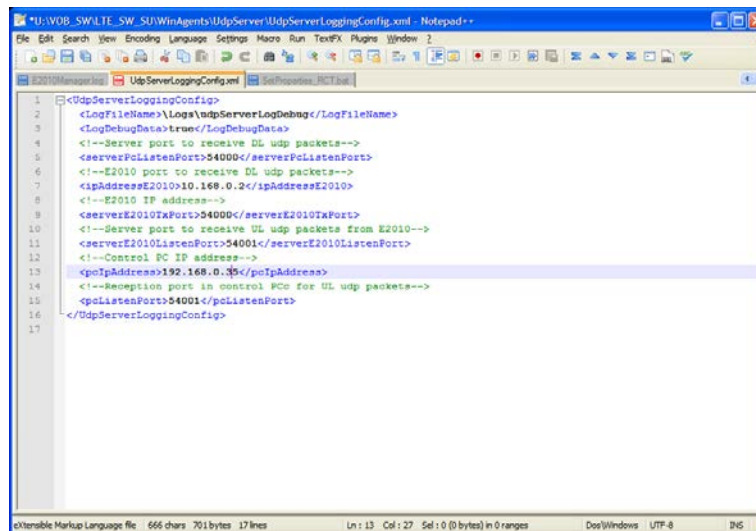

Figure 2-58: Notepad – Editing the IP Address
3. In the *Notepad* window, under the line marked *<pcIpAddress>*, enter **192.168.0.35** for the IP address, as shown in Figure 2-58.